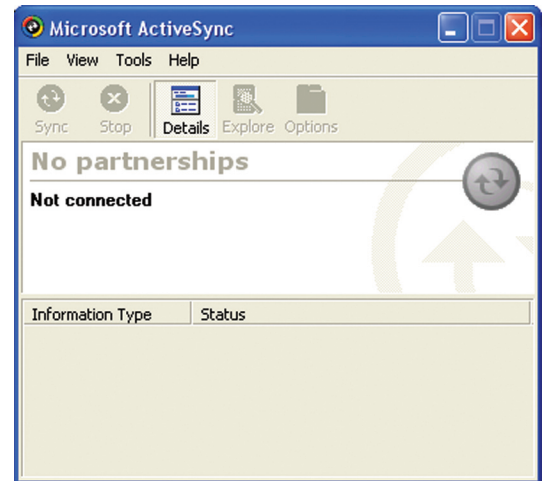

Figure 6.2.1 ActiveSync Not Connected
- A.** To insure Microsoft ActiveSync is running, click on Start/Programs/Microsoft ActiveSync. The ActiveSync window should appear. As shown in Figure 6.2.1.